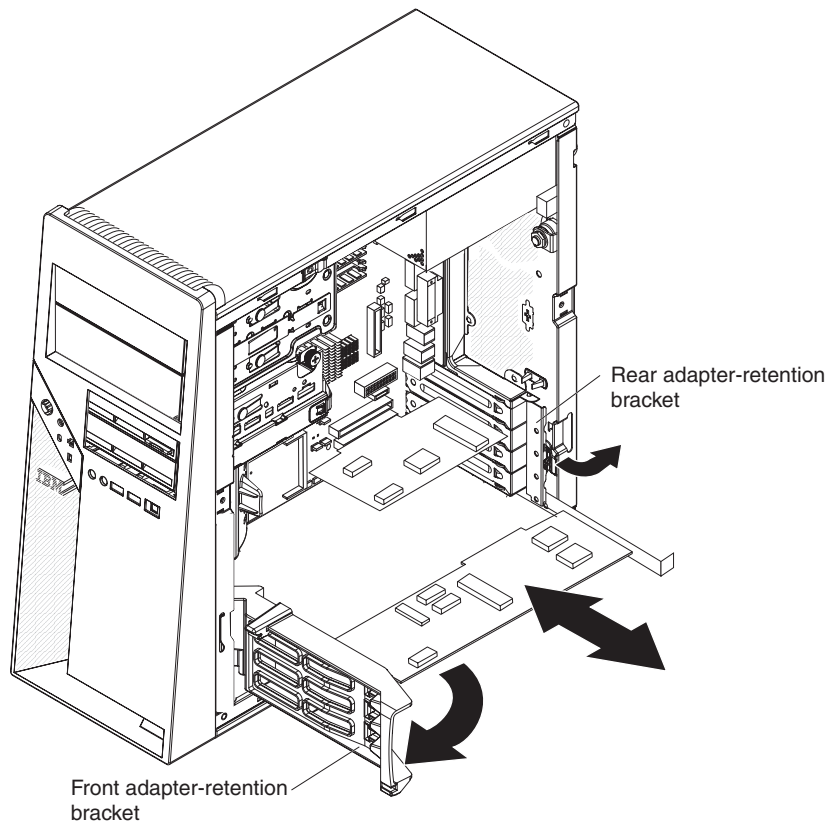

Figure 22. Installing an adapter
4. Make sure that the rear adapter-retention bracket is rotated to the fully open (unlocked) position and, for full-length adapters, the front adapter-retention bracket is rotated to the fully open (unlocked) position (see Figure 22 on page 88).